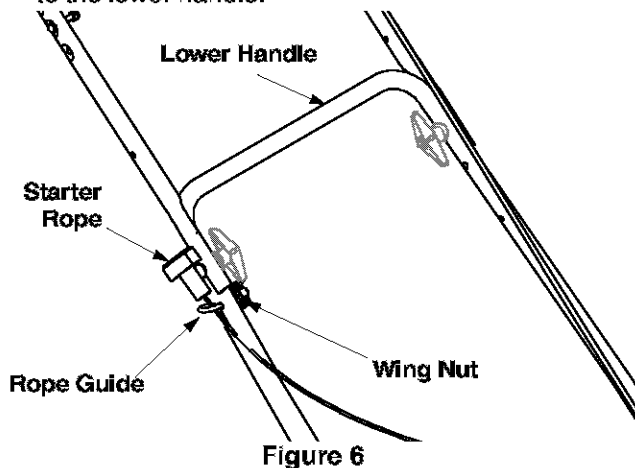

Figure 6
The rope guide is already attached to the right side of the lower handle of your mower. See Figure 6.
- With the spark plug wire disconnected and grounded, hold the blade control handle against the upper handle, and pull the starter rope up to the rope guide. See Figure 6.